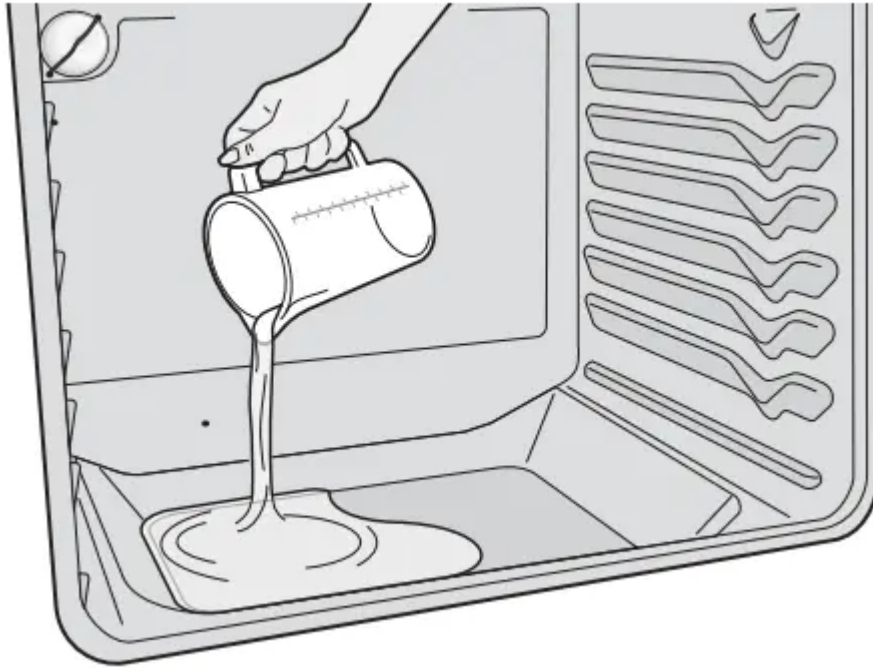

Figure 37: Pour water onto the oven bottom
3. Pour 8 oz (235 ml) of distilled or filtered water onto the oven bottom (See Figure 37).